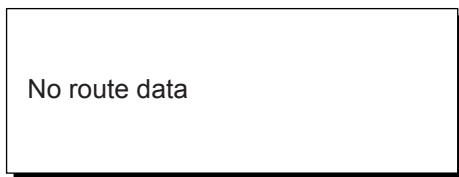

Figure 5-12
**Note:** Route entered must exist to set it as destination. The buzzer sounds and the message shown in Figure 5-12 appears if you set enter a route which does not exist.